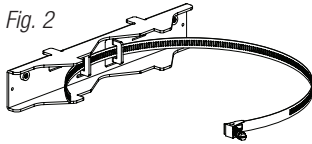

Fig. 2
1. Thread one (1) wormgear quick release strap through the slots on the back of a mounting bracket (Fig. 2).